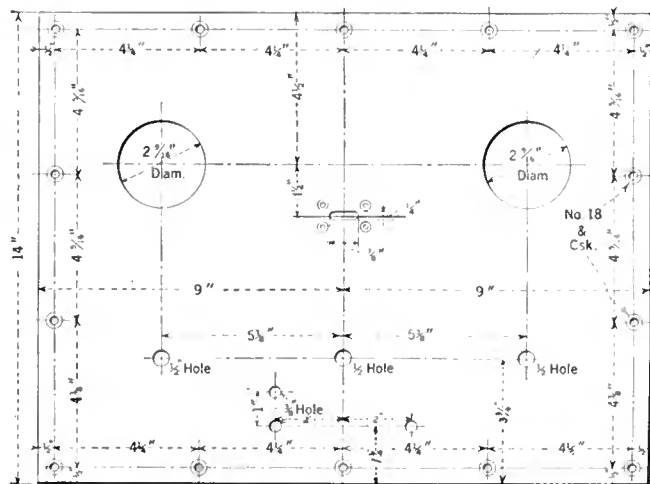

FIG. 12
- (2) Lay out and drill the main panel in accordance with Fig. 12.
- (3) Mount the various instruments on the panel and then fasten it to the wooden frame.
- (4) Remove the shelf from the frame and mount the various instruments as shown in the illustrations.
- (5) On the floor of the frame mount the batteries, choke, and modulation transformer.
- (6) Drill  $\frac{3}{16}$ " holes through the shelf at the points where connections are to be made to the tuning condensers.
- (7) Run long bus bar connections from the terminals of the three tuning condensers to points tallying with the position of the holes previously made in the shelf.
- (8) Mount the shelf in place, passing the wires from the condensers through the holes in the shelf.
- (9) Complete the connection of these wires to the coils.
(10) Wire the rest of the transmitter using No. 18 lamp cord for the power and filament leads and bus bar for the "hot" connections—i.e., grid and plate leads.